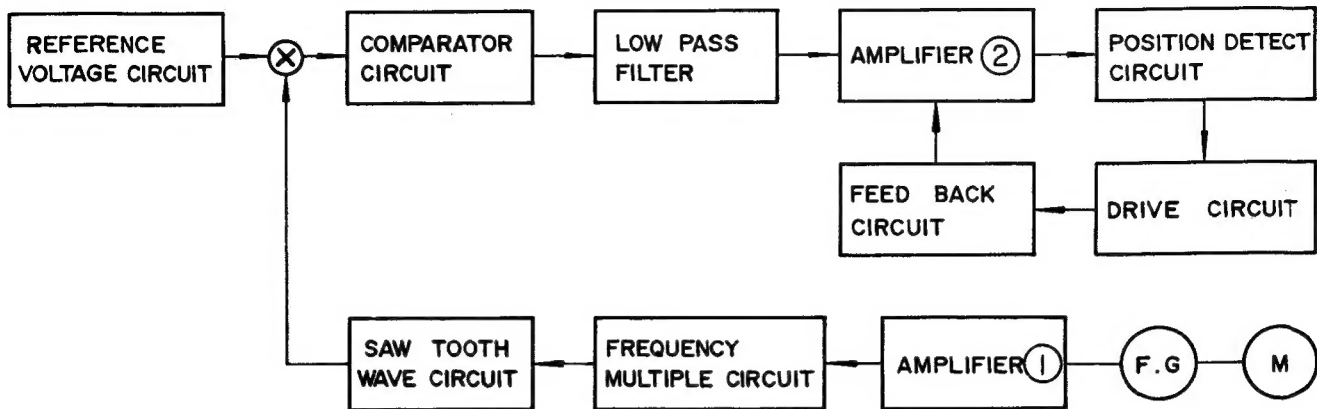

Figure 4-1 BLOCK DIAGRAM
* Refer to Figures 4-1, 4-2 and 5-1.